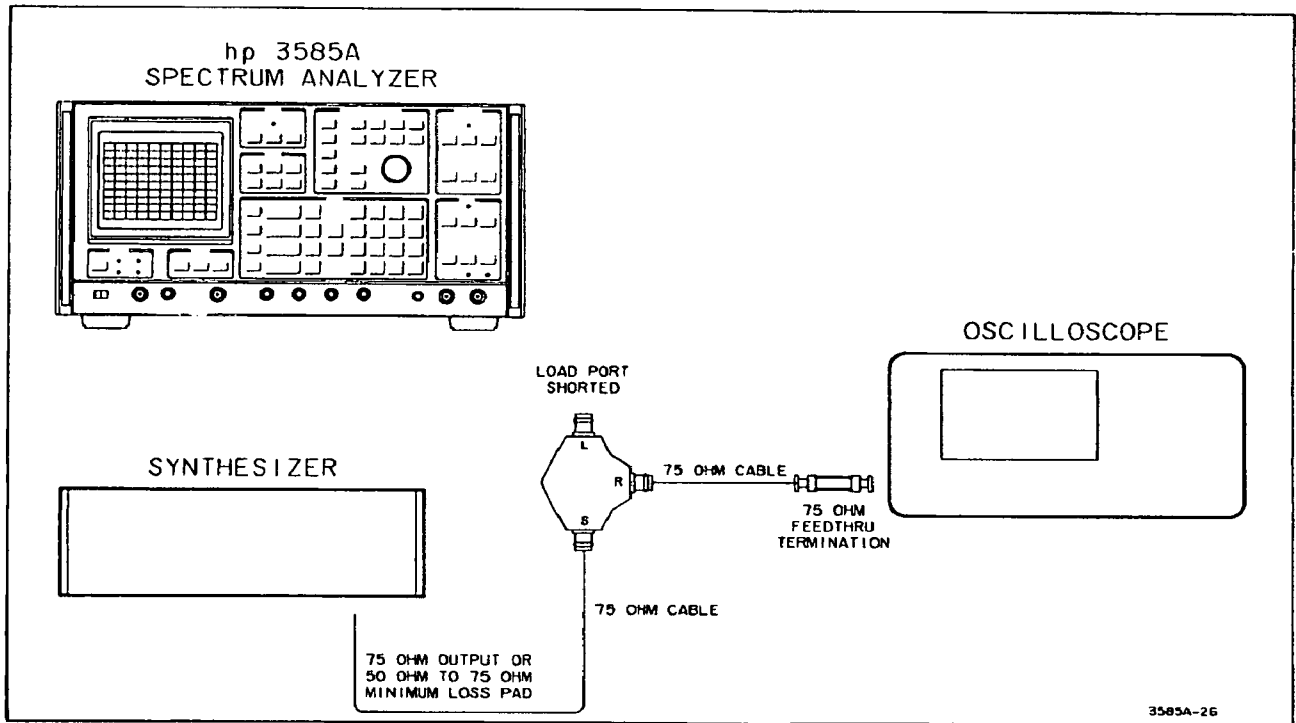

Figure 4-17. 75Ω Return Loss Test (Operational Verification).
- k. Connect the equipment as shown in Figure 4-17 for the 75 Ω Return Loss tests.